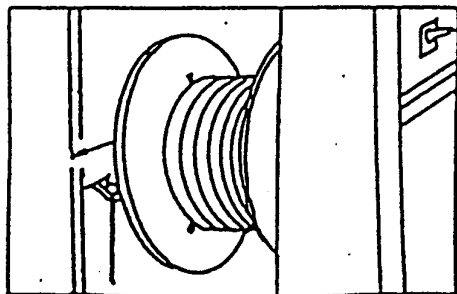
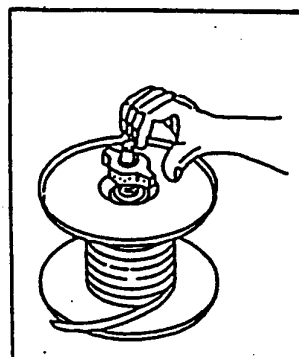

FIGURE 4
FIGURE 5
1. Open the left door. Remove the dispenser (Fig.4), and lay it down horizontally. Slightly hold the lower flange and pull up the upper flange by release the wing nut. (Fig.5)